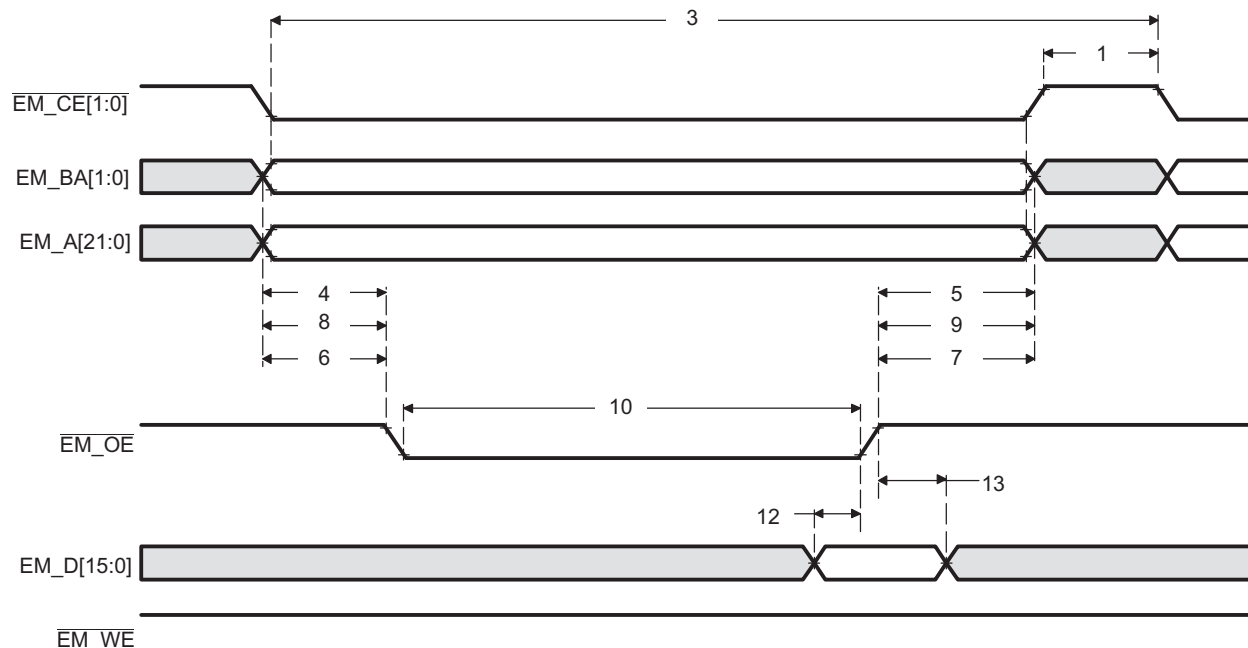
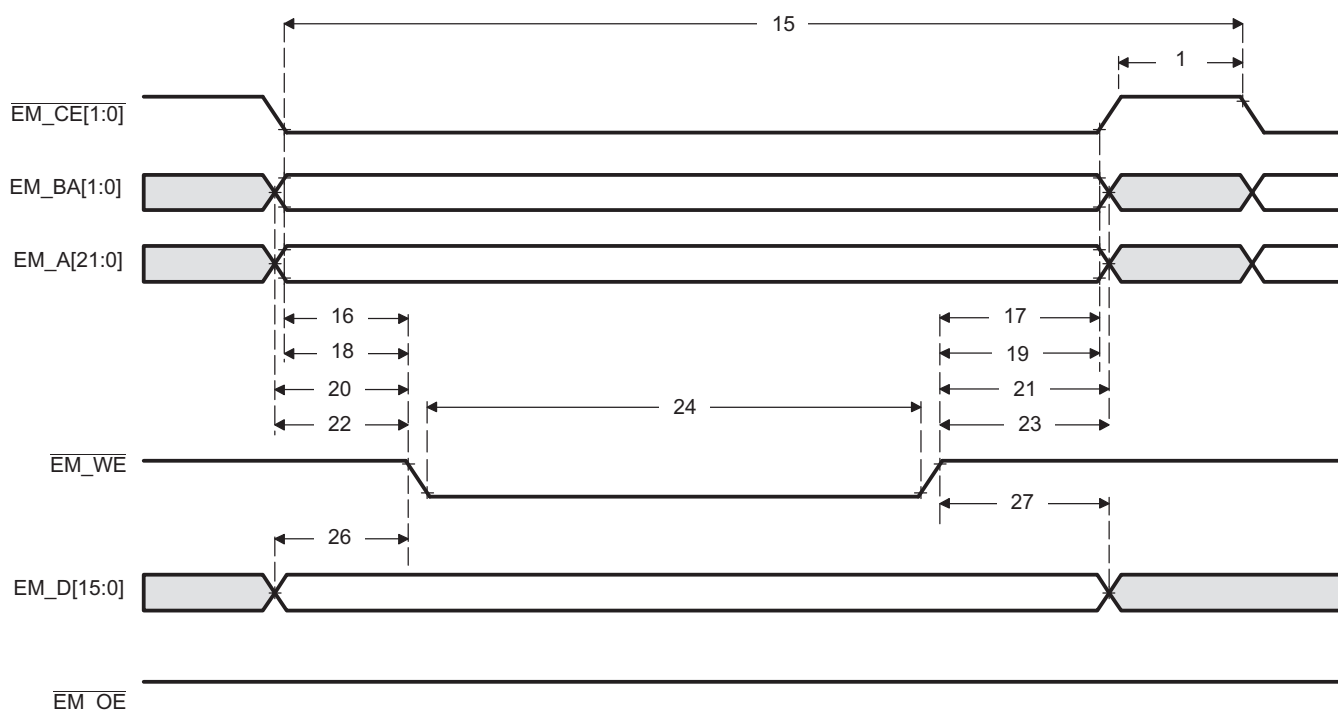

Figure 6-13. Asynchronous Memory Read Timing for EMIF
Figure 6-14. Asynchronous Memory Write Timing for EMIF
Table 6-21. Timing Requirements for Asynchronous Memory Cycles for AEMIF Module⁽¹⁾ (see Figure 6-13 and Figure 6-14)
Table 6-22. Switching Characteristics Over Recommended Operating Conditions for Asynchronous Memory Cycles for AEMIF Module⁽¹⁾ ⁽²⁾ ⁽³⁾ (see Figure 6-13 and Figure 6-14)
- (1) TA = Turn around, RS = Read setup, RST = Read strobe, RH = Read hold, WS = Write setup, WST = Write strobe, WH = Write hold, MEWC = Maximum external wait cycles. These parameters are programmed via the Asynchronous Bank and Asynchronous Wait Cycle Configuration Registers. These support the following range of values: TA[4-1], RS[16-1], RST[64-1], RH[8-1], WS[16-1], WST[64-1], WH[8-1], and MEW[1-256]. See the *TMS320DM36x DMSoC Asynchronous External Memory Interface User's Guide* (SPRUFI1) for more information.
(2) E=2*PLL1C SYSCLK4 period in ns. See Section 3.3 for more information.
(3) EWC = external wait cycles determined by EM_WAIT input signal. EWC supports the following range of values EWC[256-1]. Note that the maximum wait time before timeout is specified by bit field MEWC in the Asynchronous Wait Cycle Configuration Register. See the *TMS320DM36x DMSoC Asynchronous External Memory Interface User's Guide* (SPRUFI1) for more information.
Table 6-22. Switching Characteristics Over Recommended Operating Conditions for Asynchronous Memory Cycles for AEMIF Module^{(1) (2) (3)} (see Figure 6-13 and Figure 6-14) (continued)